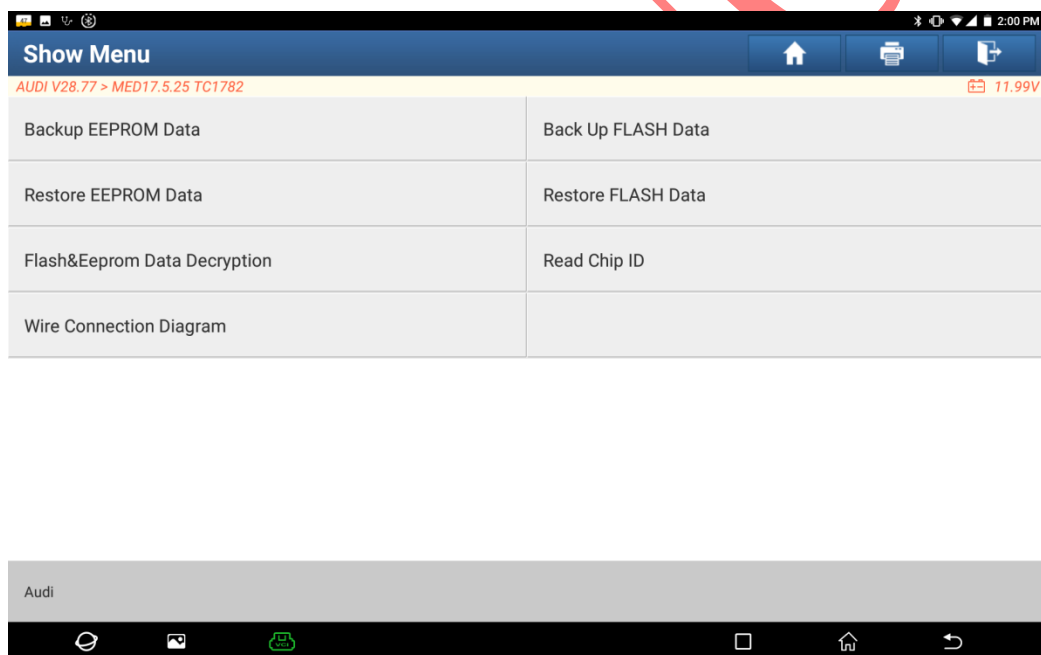

Figure 3
3. Select **【MED17.5.25 TC1782】** according to the type displayed on the label of external engine, and enter the function as shown in Figure 3;